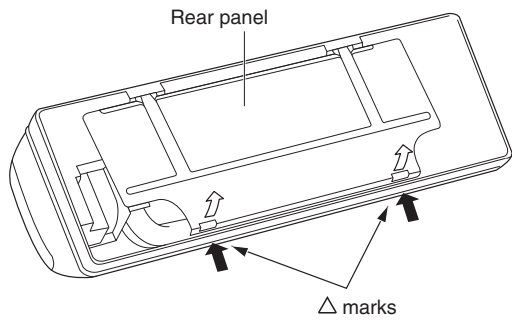

Fig. 3-32
- Press the 2 Δ marks on the frame cover and disengage the stationary tabs from the frame. (Fig. 3-32)